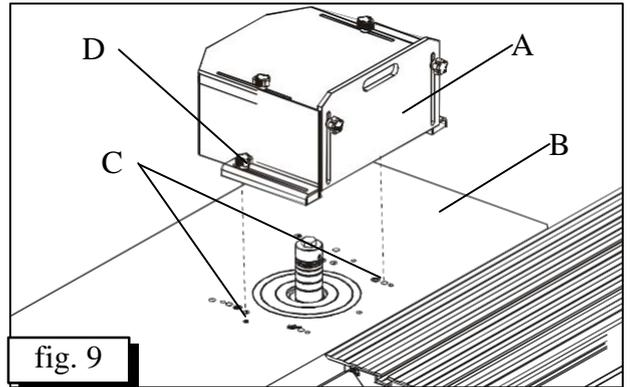

fig. 9
- Put protective box A (fig.9) for work cutting of prickle on the working table B and center it toward thread outlets C.